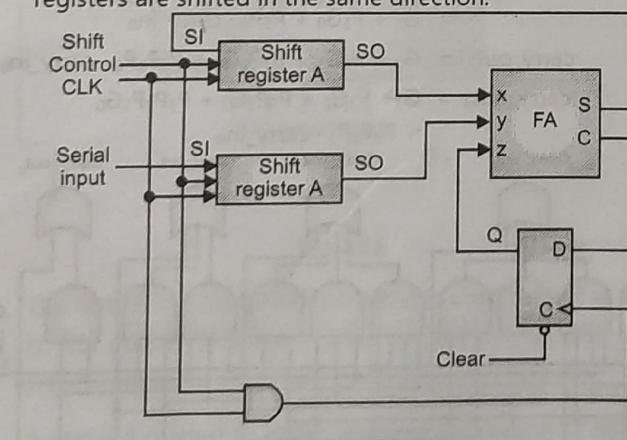

Fig. 2.55
- The Fig. 2.55 shows the circuit of serial adder. In this circuit initially, Register A holds the augend (to which another is added). Register B holds the addend (that is added). Shift